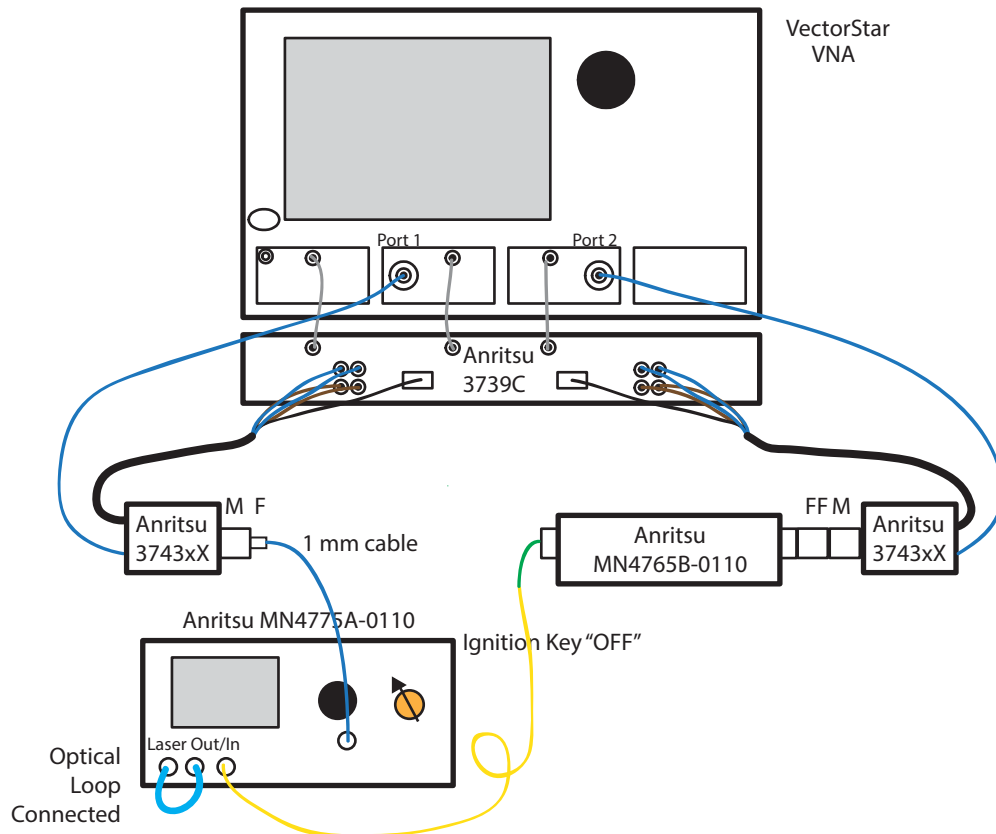

Figure 3-5. Optical Connection to MN4765B-0110
3. Connect **Yellow-colored** end of Optical Patch cable to MN4775A-0110 E/O Converter as shown in Figure 3-5.
4. Connect **Green-colored** end of Optical cable to MN4765B-0110 as shown in Figure 3-5.
5. Connect the VNA Port 1 to Anritsu MN4775A-0110 E/O Converter RF Input as shown in Figure 3-5.
6. Connect Anritsu MN4765B-0110 O/E Module Output to VNA Port 2 as shown in Figure 3-5.
8. Verify **Optical Loop** is in place on MN4775A-0110 E/O Converter as shown in Figure 3-5.